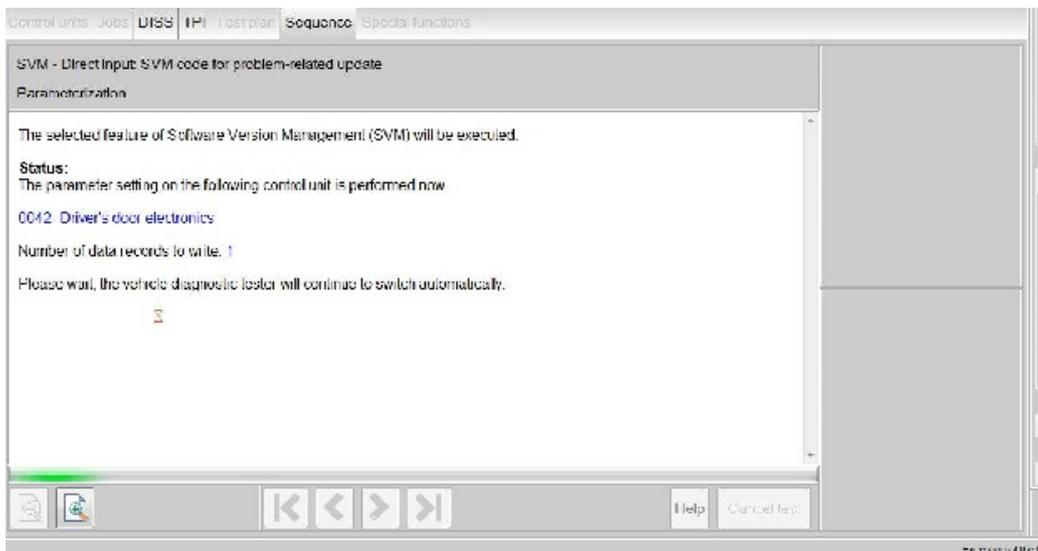

Figure 3
6. The required control modules will be automatically updated one by one, starting with 0042 – Door electronics Drivers side (Figure 3)